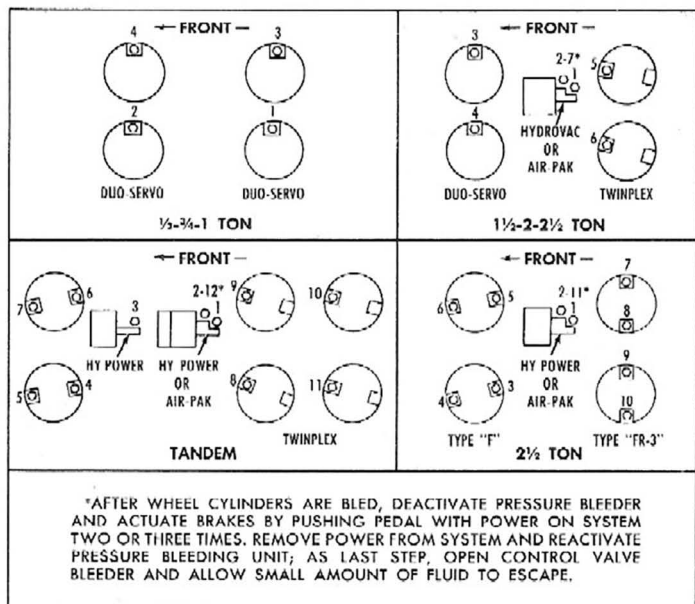

Fig. 32—Brake Bleeding Sequence
Brake system should be bled in a definite sequence to obtain best results. Figure 32 illustrates various combinations of brake equipment used, with bleeder valves numbered in the sequence in which they should be bled.
Hydrovac has only one bleeder valve and must be bled in sequence shown in Figure 32. Slip end of bleeder hose over bleeder valve No. 1, on slave cylinder (on all except the Hydrovac unit), and place other end in a glass jar containing enough hydraulic brake fluid to cover end of hose. Open bleeder valve with wrench, at least $\frac{1}{2}$ turn, and observe flow of fluid from hose. Close valve as soon as bubbles stop and fluid flows in a solid stream. Repeat at bleeder valve No. 2 (No. 1 on the Hydrovac units).
5. On all vehicles, bleed wheel cylinders at each wheel in sequence shown in Figure 32, in the following manner. Connect one end of bleeder tube to wheel cylinder and place other end in a glass jar. Open bleeder valve by turning valve counterclockwise approximately $\frac{3}{4}$ of a turn. Bleed until all bubbles disappear and fluid flows in a solid stream. Close bleeder valve.
3. In sequence shown in Figure 32, bleed wheel cylinder in the following manner. Place bleeder tube on bleeder valve.